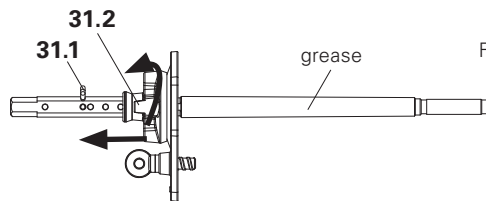

Fig. A5.05
(Fig. A5.05)
- Turn nut (31.2) to the cotter pin. (Fig. A5.05)